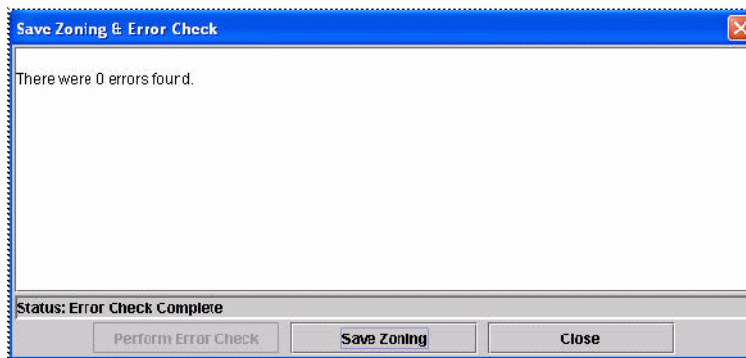

Figure 7-28 Save Zoning & Error Check window
19. Once the Error Check is complete and no errors appeared (Figure 7-28), click **Save Zoning**.